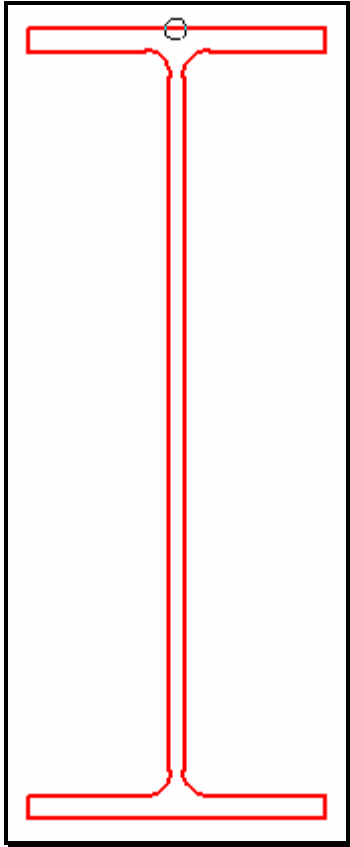

Figure 2-117: Placed Shape
The shape should appear where you *Datapoint* (Figure 2-117).
- ♪ Notice the circle at the center of the top flange in Figure 2-117. This is the **Origin** point that I selected in **Step Three**.